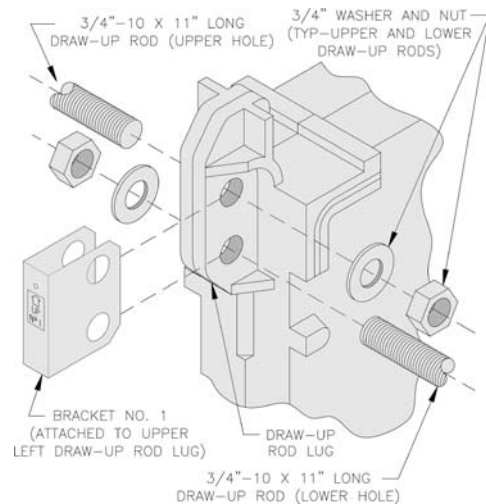

Figure 11: Bracket Placement
bracket. Refer to Figures 11 and 12 for proper location of each bracket and typical attachment.
- ii. Slide brackets over draw-up rod lugs prior to inserting the 11" long tie rods, washers and nuts. Refer to Figures 11 and 12 for proper location of each bracket and typical attachment method.